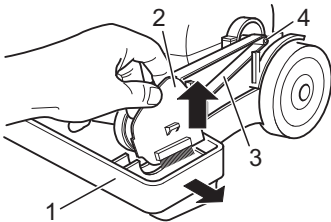

Fig. 30
9. Pull the housing (Fig. 30/1) out a bit and lift the right side of the brushing roller (Fig. 30/2). Then lift the brushing roller out of the brushing foot.
10. First lift the V-belt (Fig. 30/3) off the drive axle (Fig. 30/4) and then off the brushing roller (Fig. 30/2).
12. Assemble the new V-belt (Order Number, ▷ *Chapter 9, "Spare parts"*). First push it over the drive axle (Fig. 30/4) and then over the belt guide on the brushing roller (Fig. 31/1).